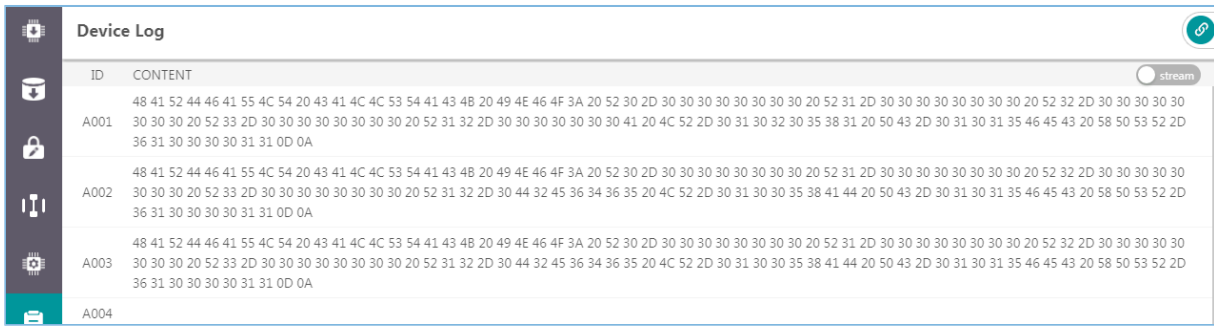

Figure 3-47 Device logs in byte streams
- **stream**: The device logs are displayed by byte stream as shown in Figure 3-47.